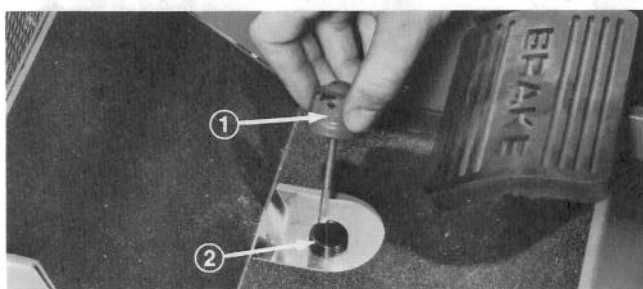

Figure 9
2. Remove dipstick cap (Fig. 9) from filler neck and wipe it with a clean rag. Screw dipstick cap finger-tight onto filler neck; then remove it and check level of fluid. If level is not within 1/2 inch (13 mm) from the groove in the dipstick (Fig. 9), add SAE 10W-30 engine oil, or, if used, automatic transmission fluid to raise level to groove mark. Do not overfill.